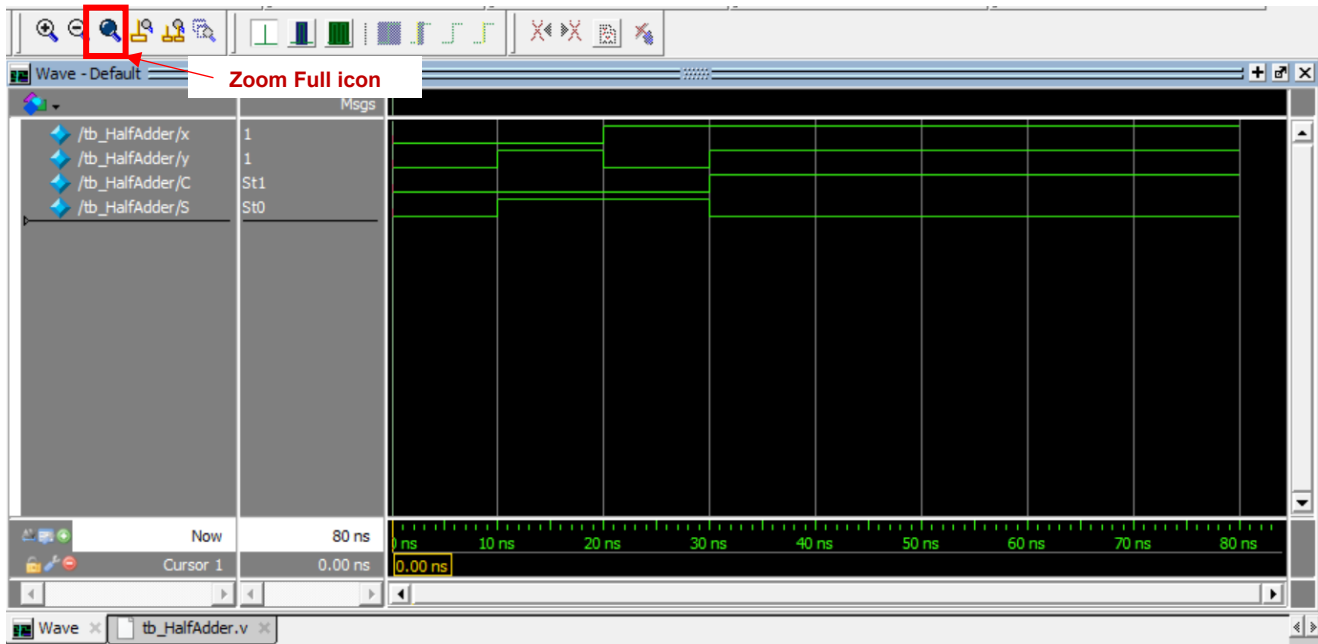

Figure 7. Wave Window
12. Click the **Wave** window to view the signals in the simulation waveform, as shown in Figure 7. Click the **Zoom Full** icon to see the entire simulation time.